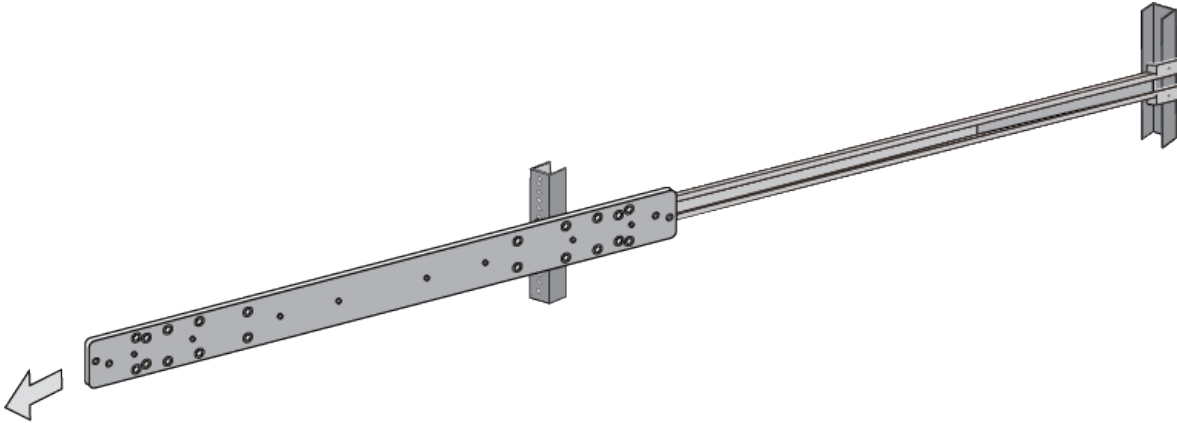

Figure 90. Removing the Inner Rail
- Remove the inner rail from the outer rail. Refer to Figure 90.